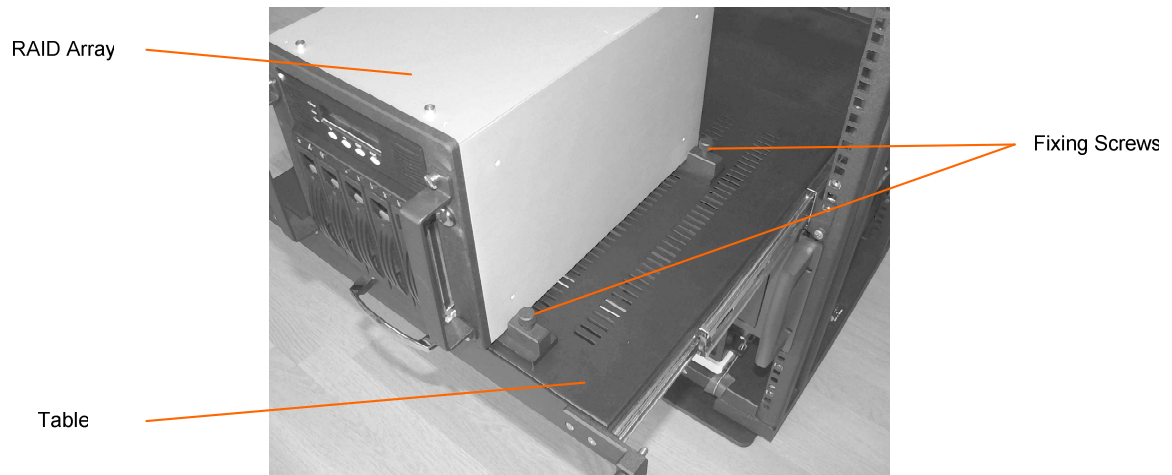

Figure 1.25: Removing RAID-array from in-out table of the rack.
- Remove RAID-array from in-out table having unscrewed 4 fixing screws. (Figure 1.25)